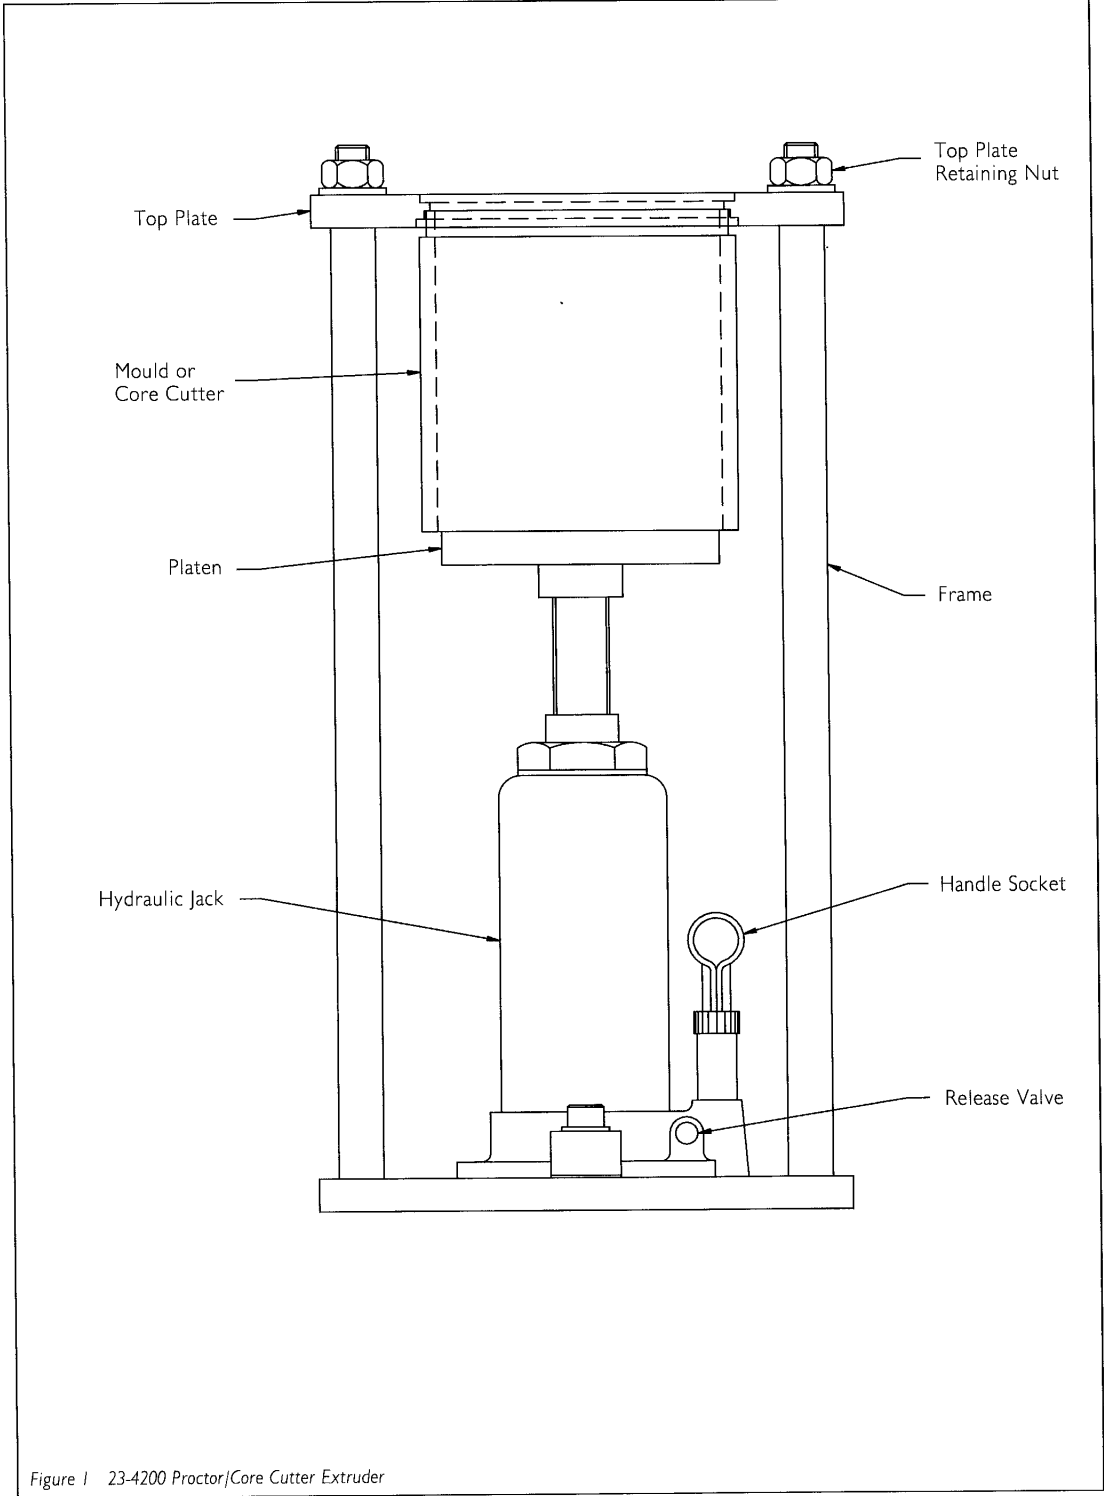

Figure 1 23-4200 Proctor/Core Cutter Extruder
Figures 1 – 3	5 - 7
**The Proctor/Core Cutter Extruder 23-4200 (Figure 1)** will extrude samples from the following ELE 100 mm (4") nominal moulds and core cutters: